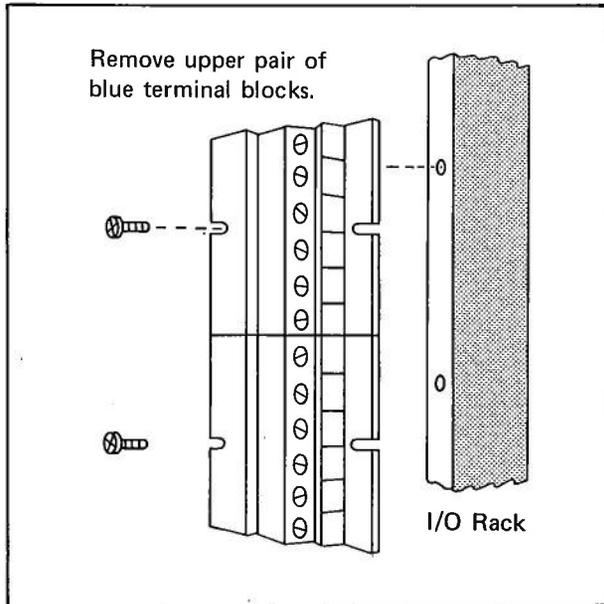
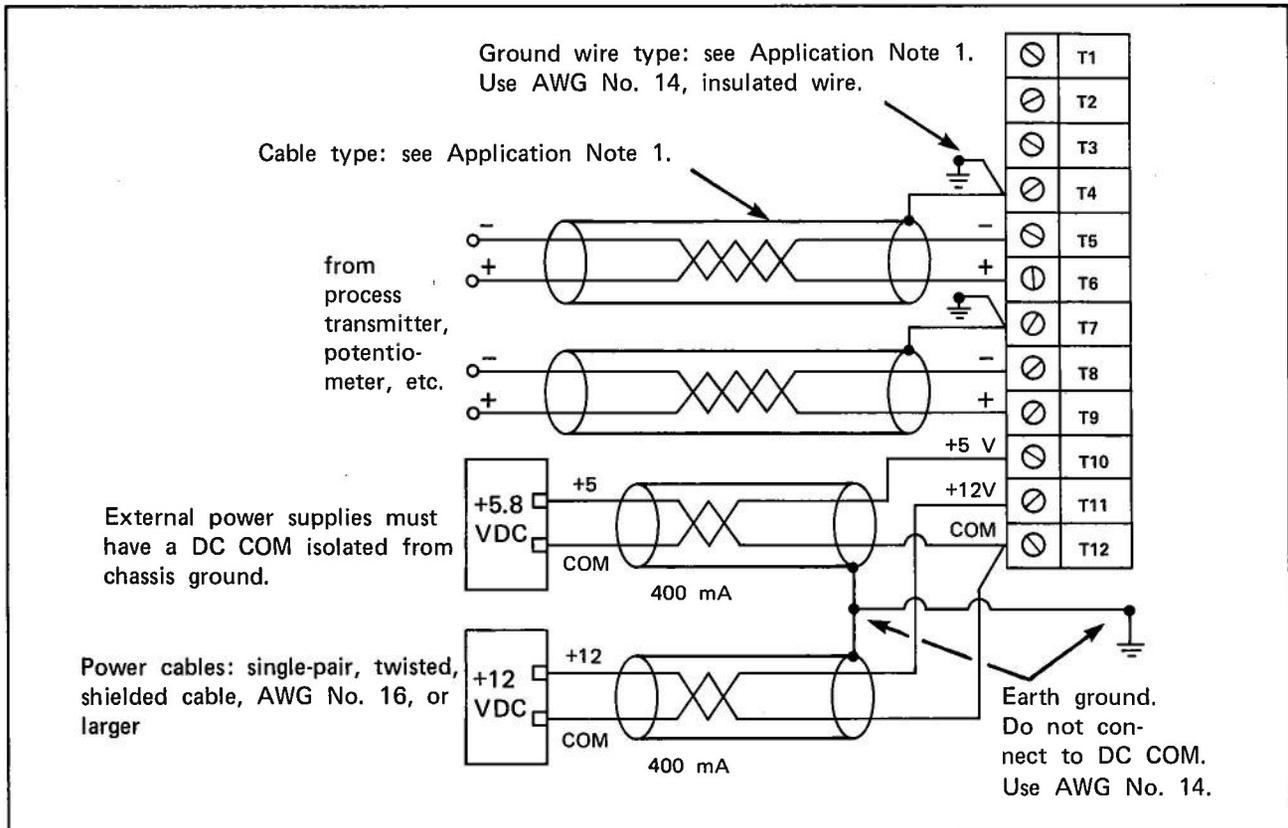
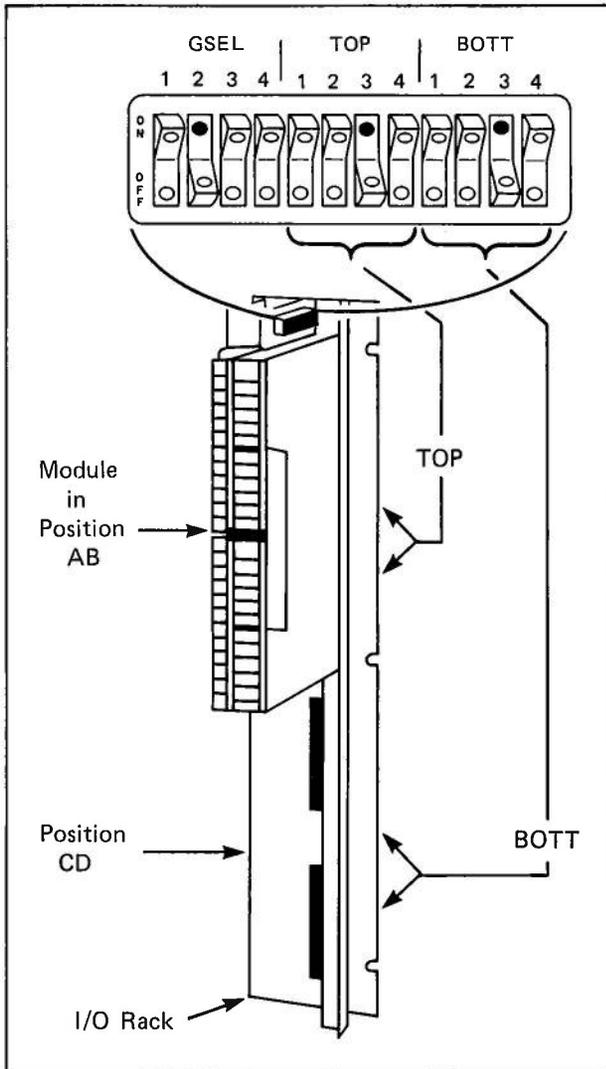

Figure 3 – Terminal Block Removal
Figure 4 – Connection Diagram (typical)
Figure 5 - Rack Switch Location
Wiring — Refer to the system drawings and determine the exact I/O Rack Positions in which the Module will be placed. (See Figure 5 for an explanation of "position.") Use a screwdriver to remove the terminal block adjacent to the top half of the Module to allow for its width. (See Figure 3.) Field wiring connects only to the lower terminals. Follow system wiring diagrams and carefully observe the type of conductor specified. A typical connection diagram is shown in Figure 4.
Wire the external power supplies with the DC COM isolated from chassis ground. Follow Figure 4. Failure to do so will result in improper operation and/or equipment damage.
not straddle Positions B and C. See Figure 5.) It is important that it be placed according to the user program Reference Number scheme.
Step 3 - At the top right-hand side of that I/O Rack, locate the Rack Switch assembly. (See Figure 5.) Note that it is divided into 3 groups of 4 rocker switches each. Locate those that make up the GSEL area.
3. Both external power supplies should be powered by the same AC line that powers the Processor. The common side of both external supplies must be connected to the Module's COM terminal (T12). See Figure 4.